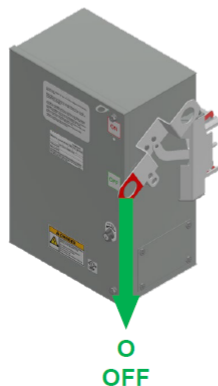

Figure 30. Turin-off
- Turn-off position. (Figure 30)